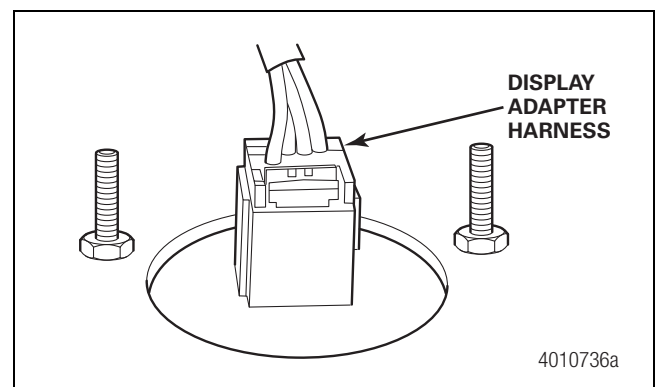

Figure 9
3. Connect the display adapter harness to the new OnGuard™ display. Figure 9.